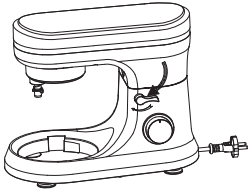

Fig. 1
1. In order to lift the arm, clockwise rotation the lift lever (2). The arm will now move upwards. [Fig. 1]